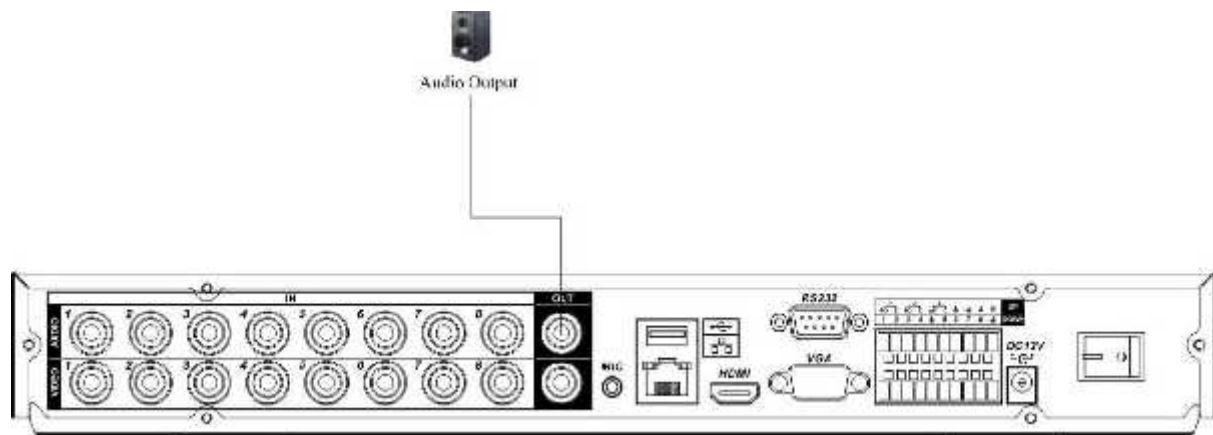
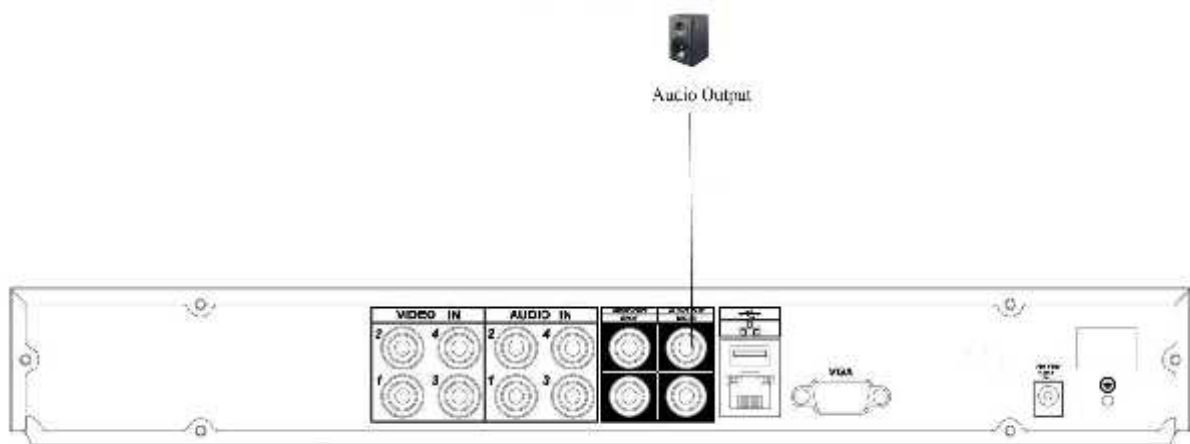

Figure 3-16 Standard 1U Series
Figure 3-20 Full D1 Lite Series
- Please refer to Figure 3-16 to Figure 3-20.